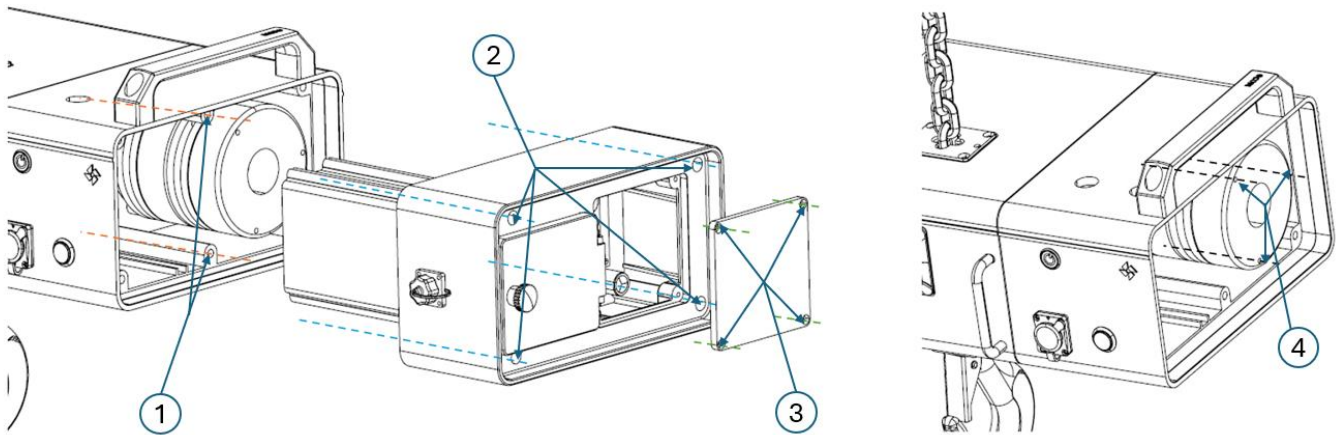

Figure 12 Bolts on housing of the hoist
Figure 12 and the table below specify the required torque values for bolts that may need to be removed and retightened during the maintenance process.
- Torque Specifications: When tightening all screws and fasteners during reassembly, you must refer back to the Fastener Torque Specifications table (Figure 12). Apply the exact specified torque to prevent loose connections or stripped threads. And do not forget the waterproof gaskets and washers as well as the shim rings.